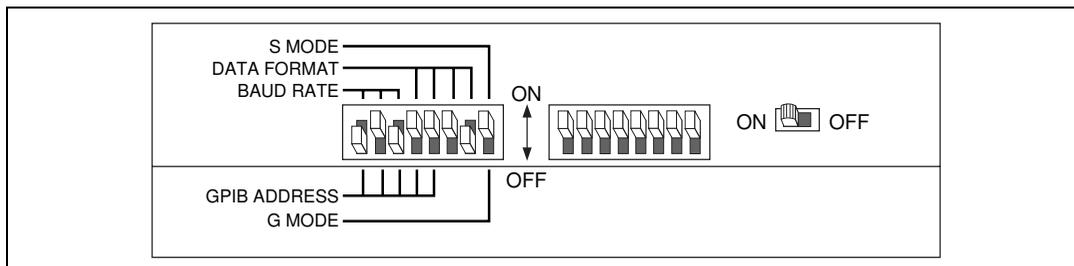

Figure 2-1. Factory Default Setting (S Mode) for DIP Switch
Figure 2-1 shows the factory default setting of the DIP switch. Notice that Figure 2-1 shows the DC version of the GPIB-232CT-A. The AC version does not have a power switch shown on the right.
In Figure 2-1, switches 1 through 3 are ON, OFF, and ON, respectively, indicating that the serial port is operating at 9600 baud. Switches 4 and 5 are both OFF, which indicates that parity is disabled. Switch 6 is OFF, indicating 1 stop bit/character. Switch 7 is ON, indicating that the GPIB-232CT-A is using 8 bits per character for serial data transfers. Switch 8 is OFF, indicating that the GPIB-232CT-A is operating in S mode.
- Check the DIP switch settings on the GPIB-232CT-A. The DIP switch selects the serial port configuration. Most applications require the default setting, which is shown in Figure 2-1. Refer to the *Configure Your Hardware (Optional)* section of Chapter 2, *Configure and Install Your Hardware*, for information on setting the GPIB-232CT-A configuration using this switch.